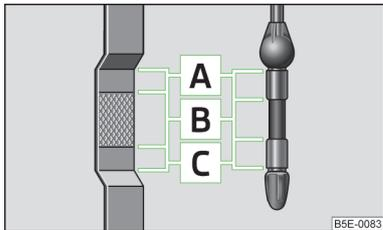

Fig. 166
- 🚫 Do not drive on if the oil level is above range **A** » Fig. 166 on page 190. Switch off the engine and seek assistance from a specialist garage.
The dipstick indicates the engine oil level » Fig. 166.
The oil level must never be above the **A** range » Fig. 166 - there is a risk of damaging the exhaust system!